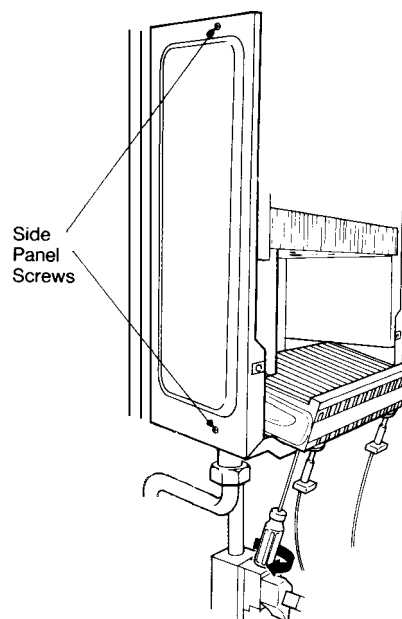

Fig. 27
Refer to fig. 27 & 28
- 8.6.5 Release electrode retaining screws & carefully remove electrodes fig. 27.
Note: If difficulty is found in relocating the burner securing screws, easier access can be gained by removing the two side panels fig. 27.
- 8.8.5 Remove both side panels, 2 screws each fig. 27